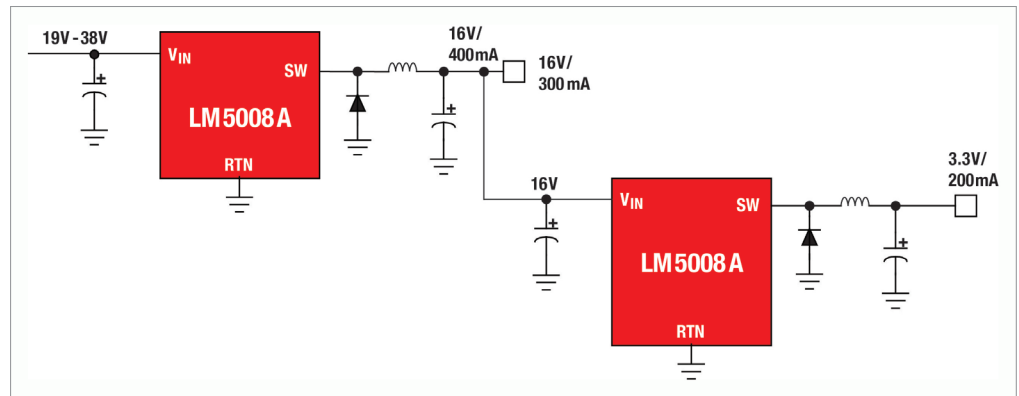

Figure 5. Two cascaded stages using a high voltage IC utilizes identical building blocks.
Another scenario is presented in the system shown in *Figure 5*. The first stage converts from 19V-38V rails to a 16V rail, which is used for certain parts of the circuit. The second stage converts the 16V rail to a 3.3V rail. Using the same circuit as the starting point for both regulators reduces the effort in designing the overall power solution. The solution in *Figure 6* uses up to six (6) LMZ13608 modules in parallel to achieve a high-density 36V input power supply for up to 48A output current.